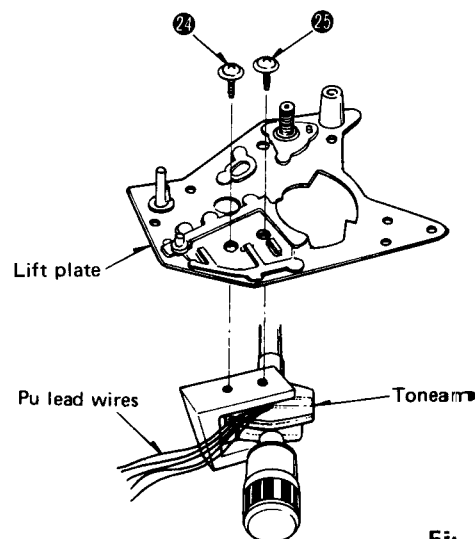

Fig. 10
## • How to remove the tonearm (Fig. 10)
3. Remove the 2 setscrews [ Fig. 10: ㉔ ~ ㉕ ] of the lift plate.